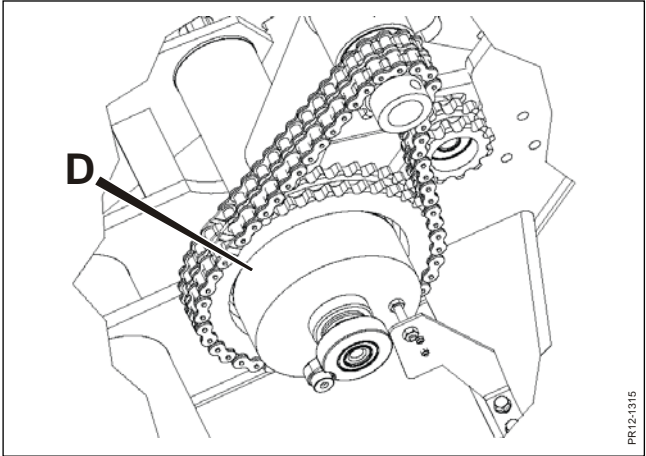
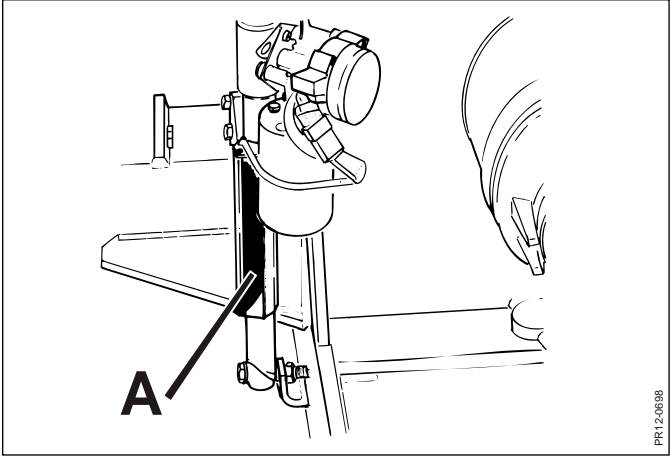

Fig. 5-4
Fig. 5-5
**Fig. 5-4** Through this blocking the torque in the transmission is increased immediately and the automatic clutch **D** is released. It glides until the belt transmission is disengaged. This is done by putting the reverse motor **A** fig. 5-5 in neutral. (See below!).
**Fig. 5-5** During the above mechanical blocking of the feed intake the microprocessor sends a signal to the electric motor **A** for the reverse function whereby it moves to neutral position.